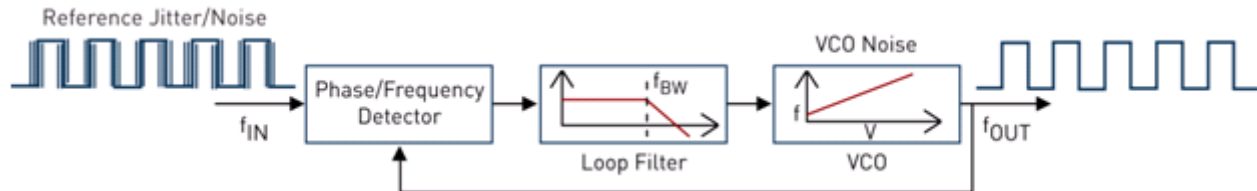

Figure 1. PLL Output Jitter Sources
Managing phase noise and jitter in these high-performance applications is a necessity. Often, a jitter attenuating clock IC or discrete phase-locked loop (PLL) is used to produce low jitter clocks. A traditional PLL architecture is comprised of a phase frequency detector (PFD), loop filter (LF) and voltage-controlled oscillator (VCO) as shown in Figure 1. Often the PLL filter is implemented using discrete components. One of the more challenging elements in designing with high-performance PLLs is how to choose the "right" loop bandwidth for a given application. As with many engineering challenges, this is a tradeoff decision that has to be made at the application level.
As shown in Figure 1, PLL output jitter is dominated by two sources: transferred reference noise and internal VCO noise. Reference noise sources include jitter generated by the reference timing source, PCB noise coupling and power supply noise. VCO noise sources include loop filter components, VCO amplifier components and power supply noise.